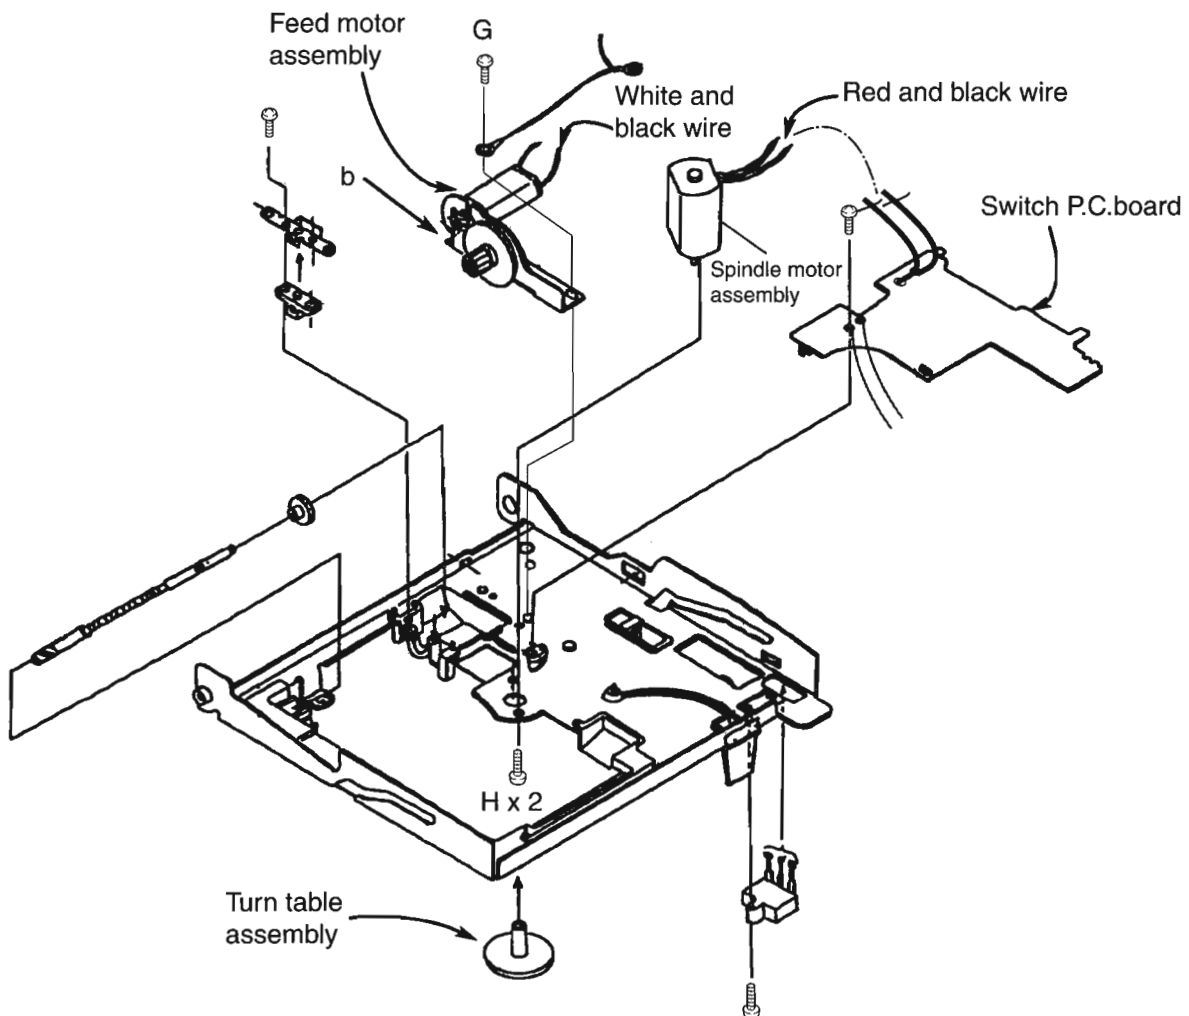

Fig.9
■ Removing the feed motor assembly (see Fig.9)